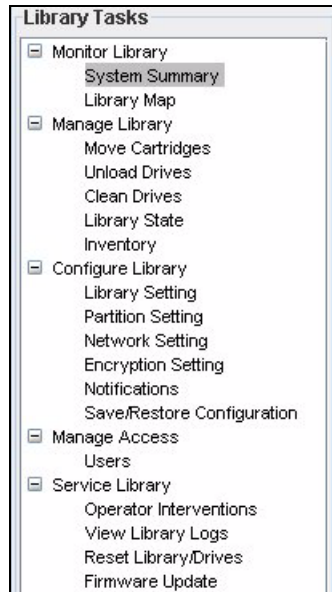

Figure 2-50 Enable ALMS
2. On the left side of the screen, select **Library** → **ALMS**. This will display a warning and a specific selection to **Enable ALMS** (Figure 2-50). The operation will take many minutes, according to the size of your library.
ALMS can also be disabled, but this should be done with care. After ALMS is enabled, the screen shown in Figure 2-50 has the option **Disable ALMS** instead.